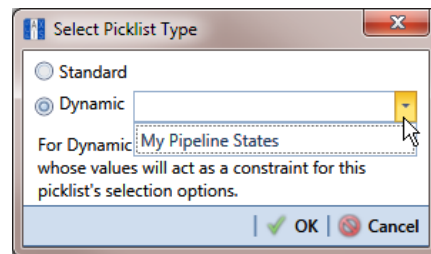

Figure 3-48. Select Picklist Type
- 3 Click  **Picklist** in the toolbar of the *Field and UDF Customizations* window to open the *Select Picklist Type* dialog box (Figure 3-48).